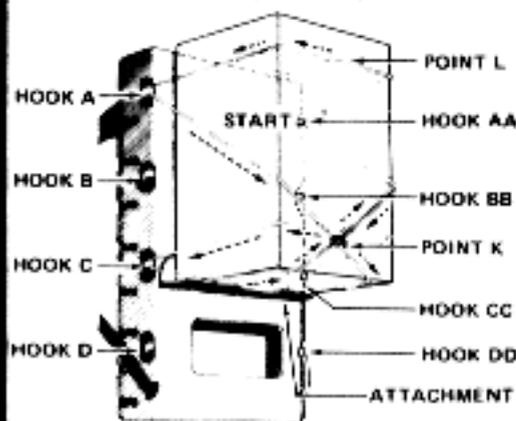

Figure 4-43. Rope lashing method using four hooks.
**Four-hook method.** One method of lashing a load with rope, using four packboard hooks, is shown in figure 4-43.